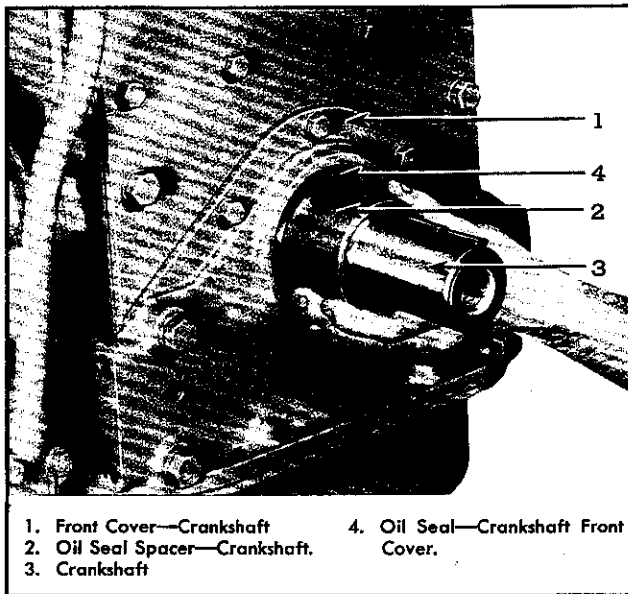

Fig. 2—Replacing Spacer on Front End of Crankshaft.
7. Replace the spacer or vibration damper inner (rear) cone if used on front end of crankshaft next to the oil slinger, as shown in Fig. 2.